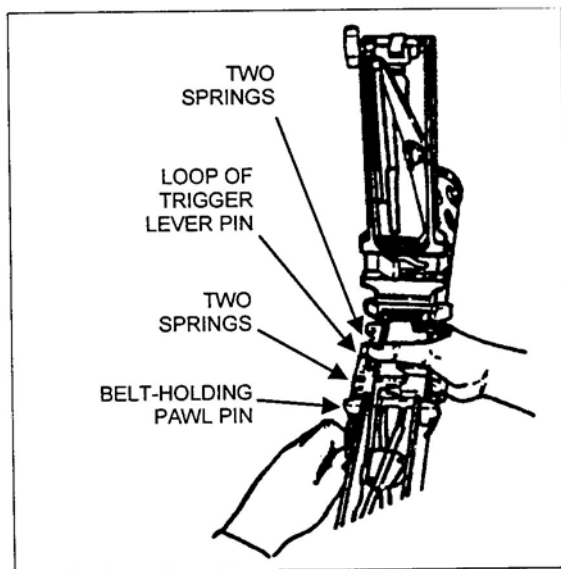

Figure 21. Removal of the belt-holding pawl pin, assembly, and springs.
- (2) Press down on beltholding pawl assembly to prevent loss of springs, and remove the beltholding pawl pin. Remove beltholding pawl assembly and springs (Figure 21).